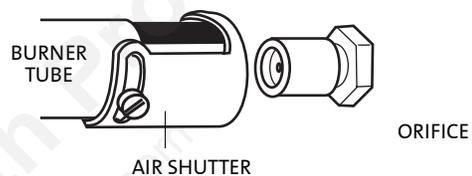

Figure 16.
9. Adjust the Air Shutter on the Burner Tube (10) to allow for the proper mixing of air and gas. See fig. 16.